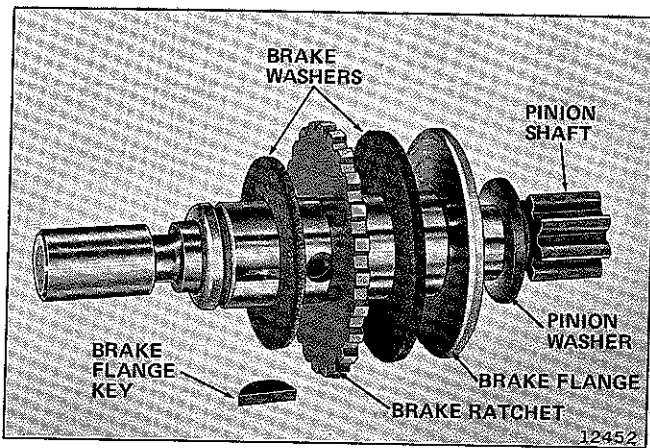

Figure 6-6. Load Brake Parts
f. Take out load brake parts; two brake washers, brake ratchet, and brake flange by sliding them off pinion shaft. Next, remove the brake flange key (Figure 6-6).
- Slide brake flange on pinion shaft. Then add the large diameter brake washer, brake ratchet and small diameter brake washer. See Figure 6-6. The brake pawl and spring is then installed last. Attach cover with three screws.